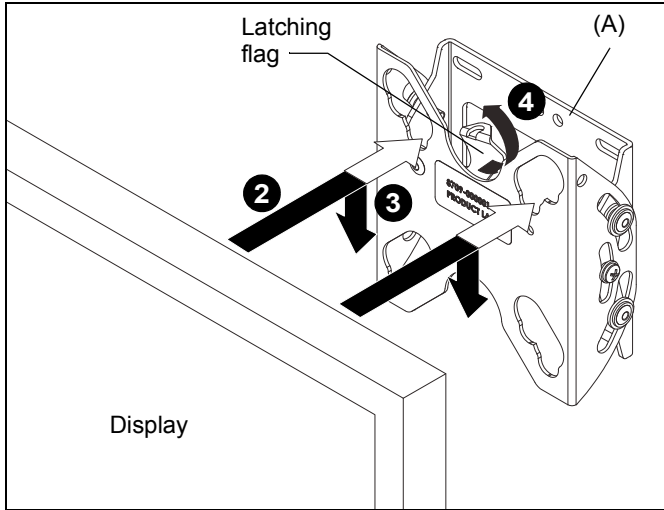

Figure 7
2. Lift and maneuver display such that all mounting buttons fit into openings on FTR (A). (See Figure 7)
3. Lower display firmly into place. Ensure each mounting button has fully seated in the opening (See Figure 7)
4. Close latching flag by rotating flag counterclockwise on FTR (A). (See Figure 7)